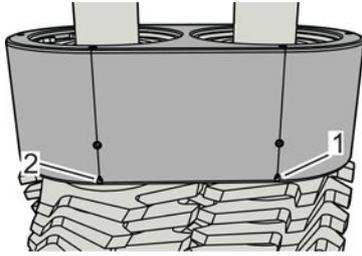

Fig. 103: Releasing the locking screws
19. ▶ Screw in all locking screws (Fig. 103/1, 2) of the upper and lower bearing housing until they engage in the grooves of the hold-down edges of the rotating slide ring sealing parts and secure them in this position